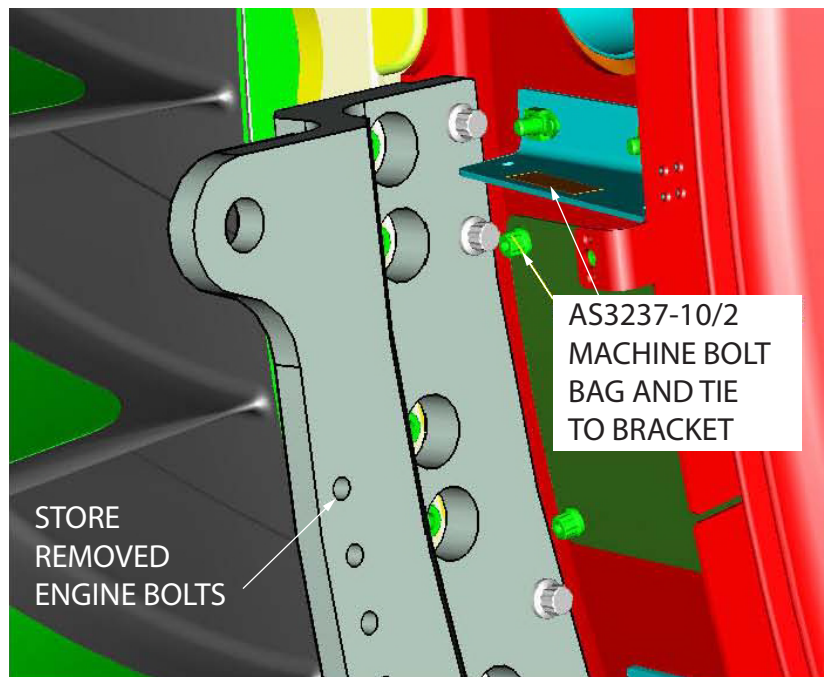

Figure 5.2.3-2
- 4) Install the fan hub frame support brackets. Use the 15 bolts (Grade 8) that are provided with the brackets. Torque these bolts to a value of 20 ft-lb. (Figure 5.2.3-3).